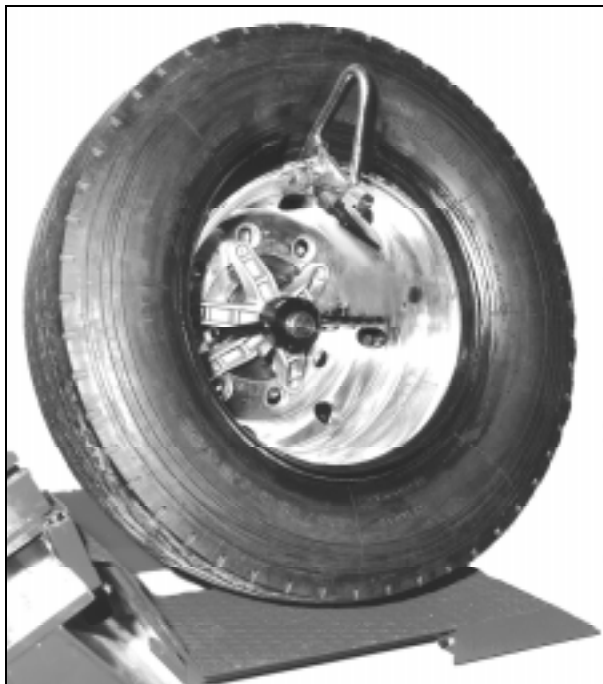

Fig.31
**B.** Move the chuck arm all the way down. Roll the tire on the footboard and hang it onto the mounting clamp (Fig.31).